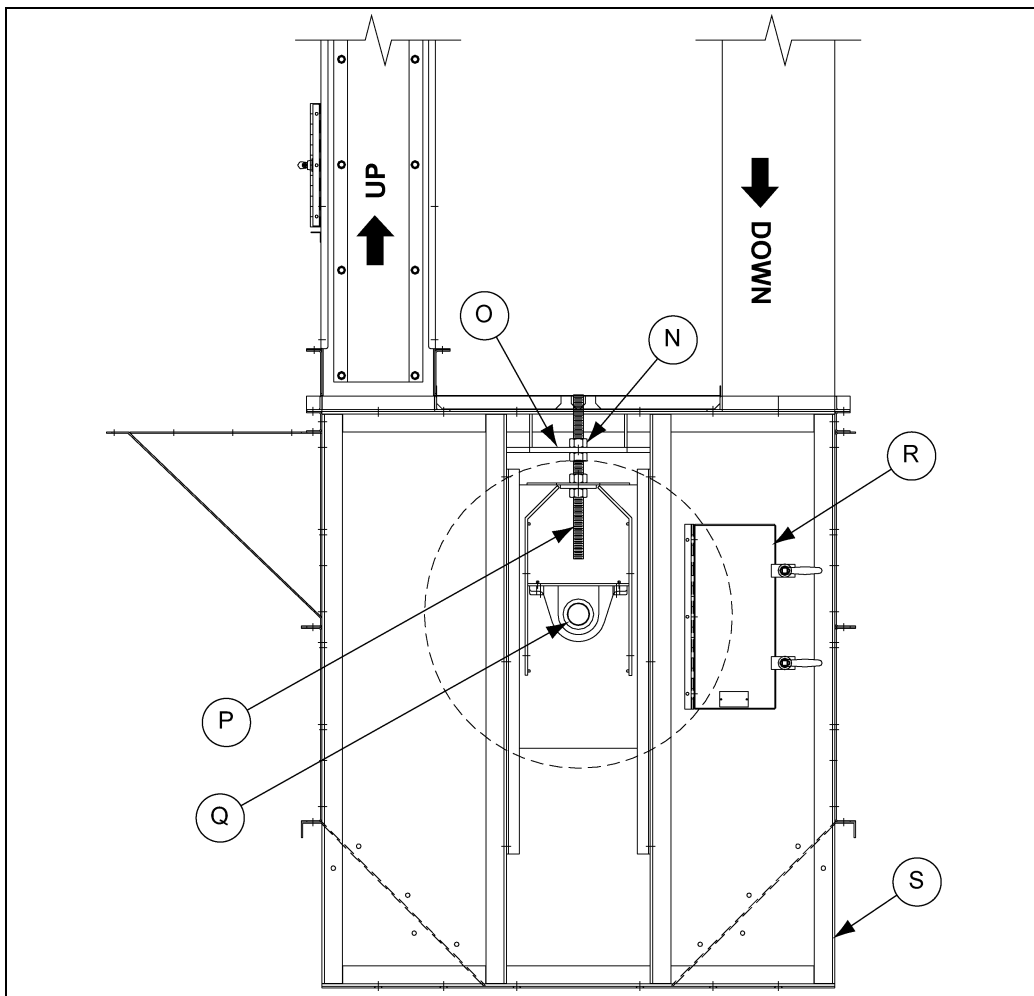

Figure 4N Screw Take-Up Section
1. If the elevator boot includes a manual screw take-up as shown in Figure 4N, adjust the take-up screws to raise the pulley to its highest level.
- a. If the elevator has a screw take-up, Figure 4N on Page 28, adjust the screws evenly downward at both ends of the take-up pulley shaft. Continue adjusting the screws until the belt can be seen to wrap snugly around the take-up pulley.
2. Establish a firm, level, horizontal reference plane common to both ends of the take-up or boot pulley shaft. Measure from the reference plane to the pillow block mounting surface at each end of the pulley shaft. If the distances are not equal, adjust the take-up screws, Figure 4N on Page 28, or the alignment adjusting screws, Figure 4O on Page 29 until the pulley shaft is level.